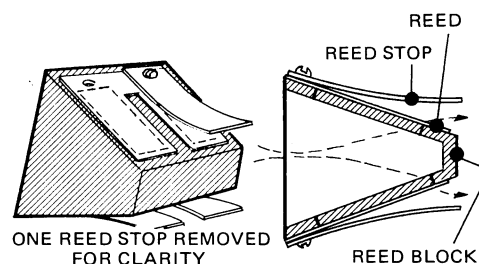
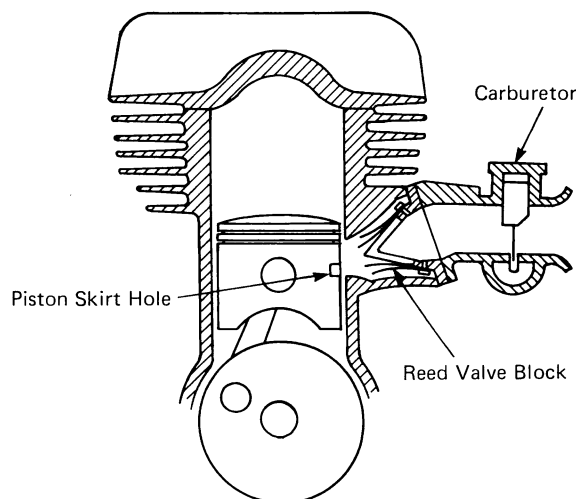

Fig. 8-9 Reed valves and block (Kawasaki Motors Corporation)
Fig. 8-10 Reed valve induction
**Reed Valves.** The reed valve system employs a set of thin “flapper” valves that are opened by vacuum and closed by pressure (Fig. 8-9). As the piston travels up the bore, a vacuum is created below it, but the piston port intake system is not usually exposed to this vacuum until the skirt edge of the piston opens the port. In a reed valve system, however, there are holes in the piston that let the mixture pass right through the piston without waiting for the lower edge of the piston to open the port. This method allows the crankcase chamber to be filling up during almost the entire upward stroke of the piston. It also helps retain the mix in the chamber rather than “blow back” any of the charge because the reed valve is a one-way valve. In other words, the reed valve permits the mixture to pass into the crankcase from the carburetor, but does not allow it to return (Fig. 8-10).